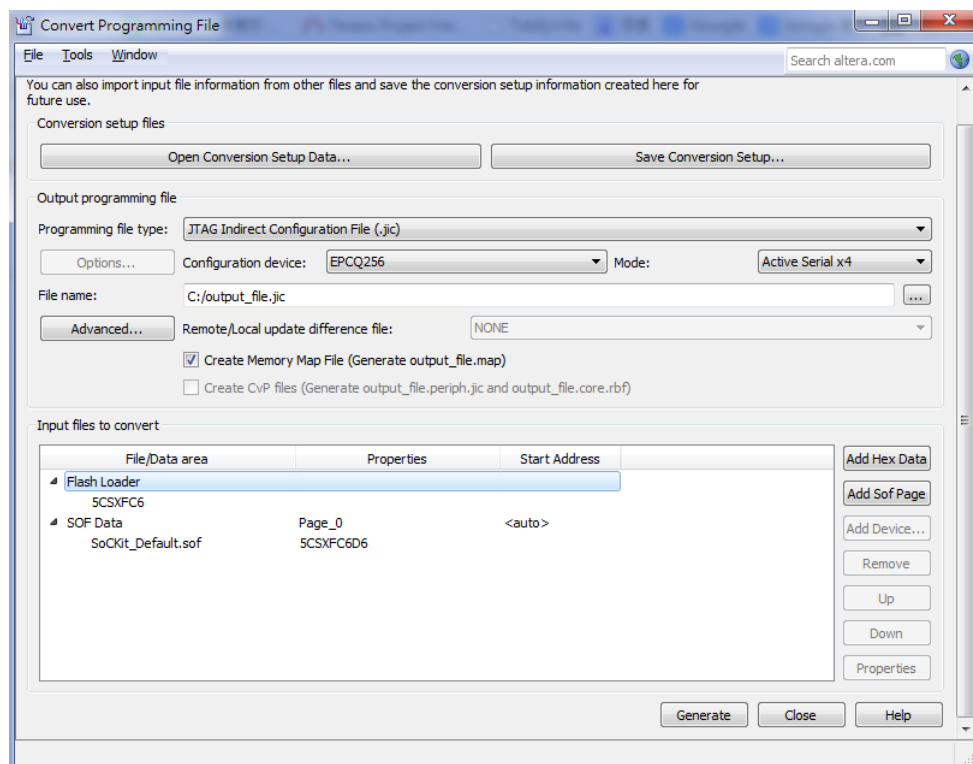

Figure 7-5. Convert Programming Files Page
2. Program the serial configuration device by checking the corresponding **Program/Configure** box, a factory default SFL image will be loaded (See Figure 7-5).